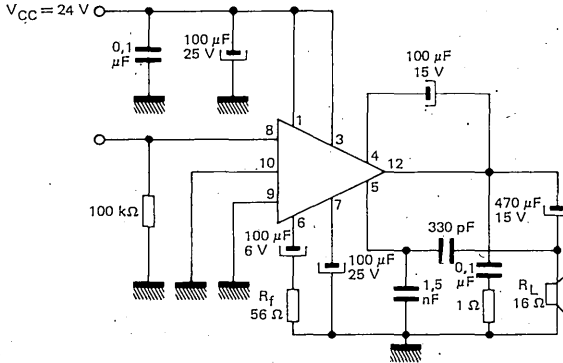

Figure 1
Note 1 The characteristics above were obtained using the circuit shown in figure 1
*Mesuré dans les conditions de la figure 1*